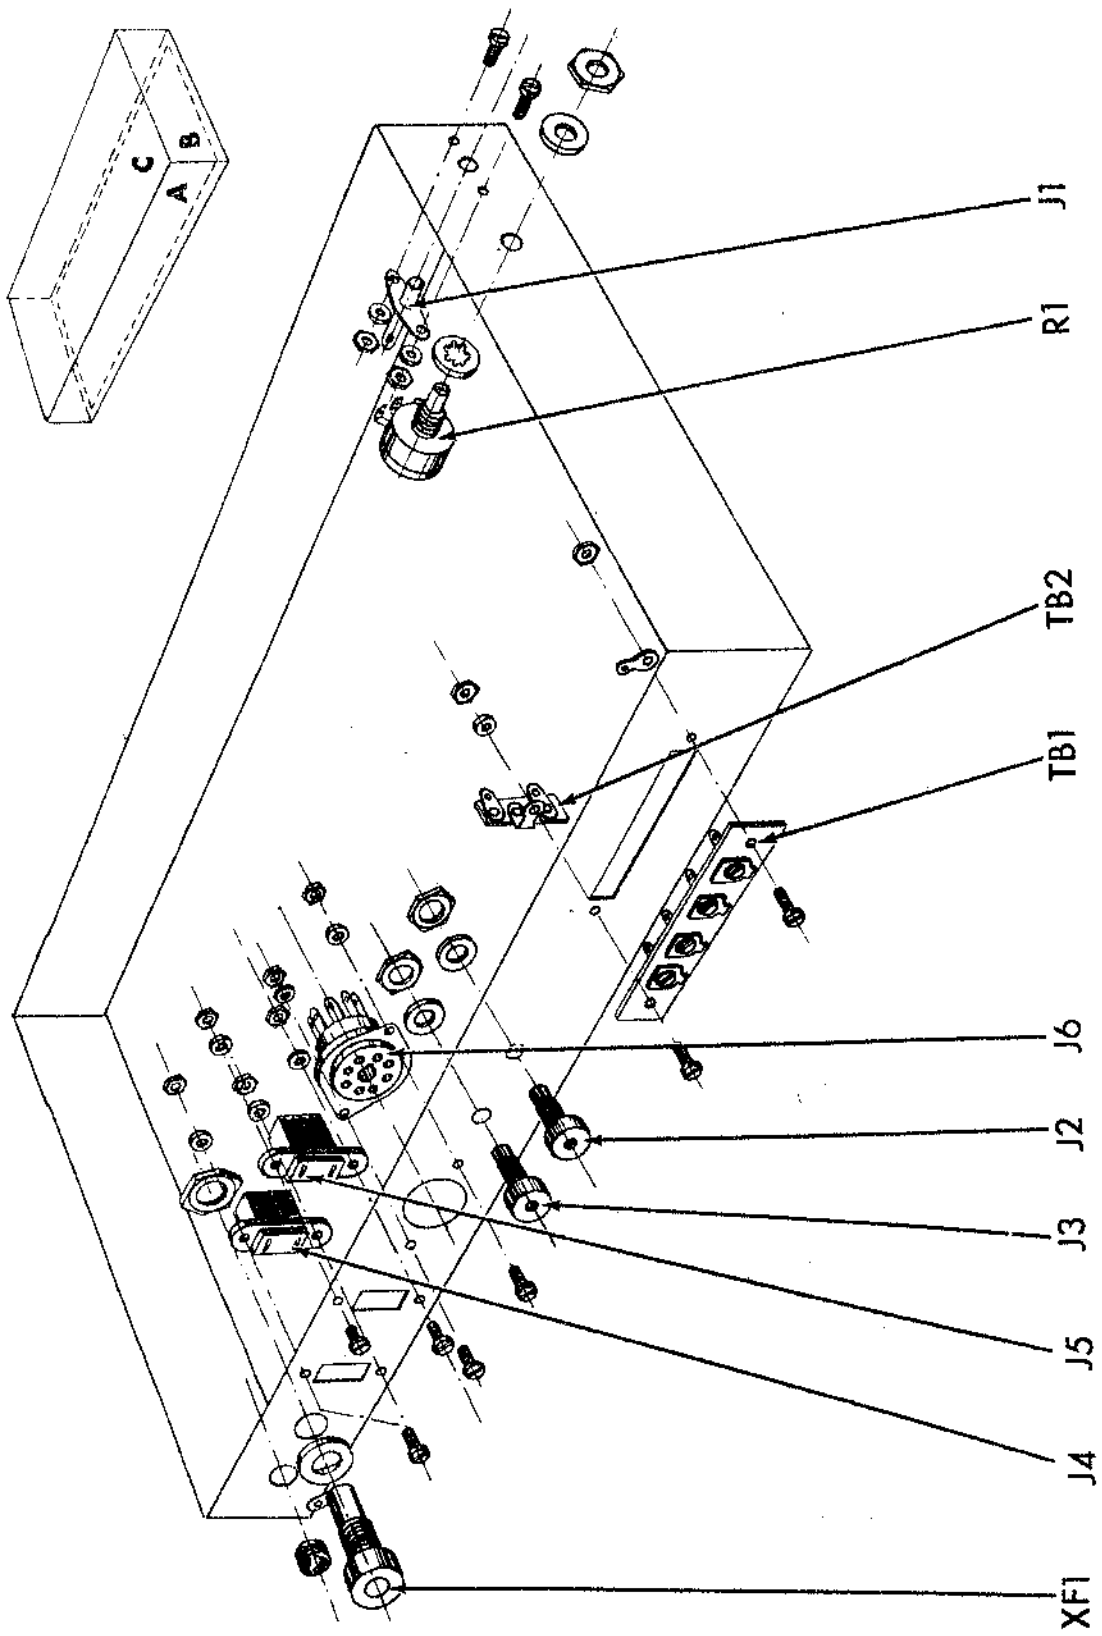

Fig. 1
Fig. 1 shows the chassis laying bottom down, in which position the interior would actually be hidden from view. For the purpose of showing the mounting procedures clearly, Fig. 1 has been drawn as if the chassis were transparent. The long and short sides of the chassis to which parts are mounted have been designated side A and side B respectively, and the top of the chassis has been designated side C (see insert drawing).
1. () Fig. 1, side A. Mount the four post terminal board (SPEAKER CONNECTIONS) TBI on the outside of the apron. A two post terminal strip TB2 and a small ground lug are mounted on the inside as shown. Use two #6-32 X 1/4 screws, two #6 hex nuts and one #6 lockwasher.
2. () Fig. 1, side A. Mount the two pin jacks (METER) J2, J3, with the hardware supplied on same. Remove the nut and the fibre washer from the threaded portion of the jack. Pass same thru hole provided and attach the fibre washer and hex nut on the inside of the chassis. The small shoulder on the fibre washers should seat itself into the mounting hole. If the assembly is properly made the lug on the jack will be insulated from the chassis.
3. () Fig. 1, side A. Mount the octal socket, J6, (PREAMP POWER) as shown. Orient the socket so that the small notch (keyway) in the center of the bakelite section of the socket faces the meter jacks. This socket should be in-
4. () Fig. 1, side A. Mount the convenience outlets J4, J5 (117VAC) inserting them from the inside of the chassis apron. To mount each outlet, use two of each of the following: #6-32 X 1/4 screws, #6 hex nuts and #6 lockwashers.
5. () Fig. 1, side A. Mount the fuseholder XF1, as shown. Secure the fuse holder with the large rubber washer and the largest nut supplied with the kit.
6. () Fig. 1, side A. Mount the 3/8" rubber grommet as shown. The groove around the rim of the grommet should fit over the rim of the hole. Squeeze grommet into oval shape to insert into hole, and work groove over the rim of the hole with a small screwdriver.
7. () Fig. 1, side B. Mount the input jack, J1 on the inside of the chassis. Use two of each of the following: #6-32 X 1/4 screws, #6 hex nuts and the #6 lockwashers.
8. () Fig. 1, side B. Mount the 1M Ω pot., P1, stock # 16016 (INPUT LEVEL ADJ.). Use one each of the following: 3/8-32 hex nut, 3/8 lockwasher and 3/8 flat washer.